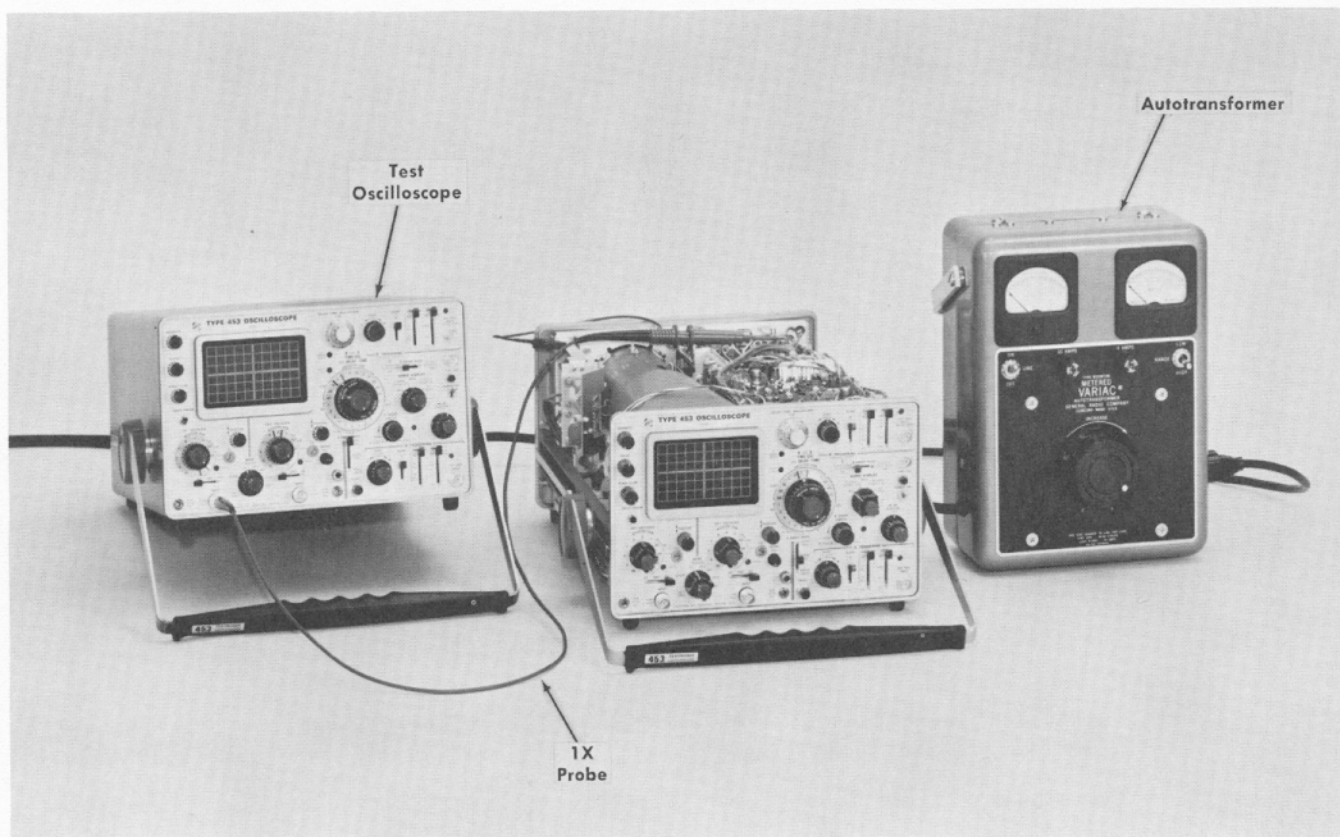

Fig. 6-7. Test equipment setup for step 4.
- Test equipment setup is shown in Fig. 6-7.